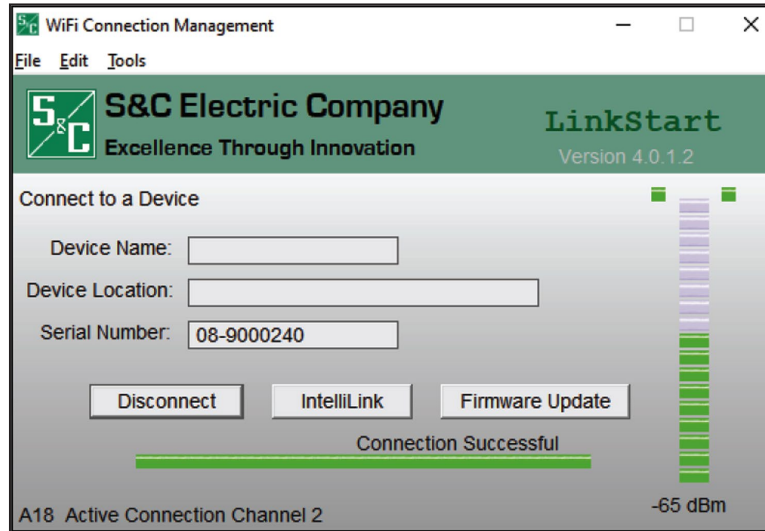

Figure 17. The connection successfully completed indication.
**STEP 6.** In the **Tools** menu on the menu bar click on the **Firmware Update** menu option. See Figure 17.